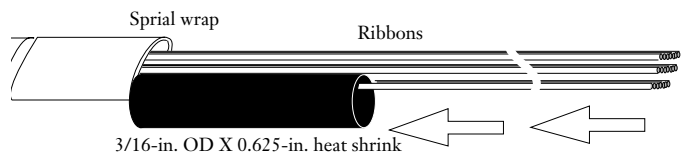

Figure 5
5.4 Slide a 3/16-in. OD x 0.625-inch long piece heat shrink over each ribbon. Work the heat shrink back to the spiral wrap to temporarily store it out of the way (Figure 5).